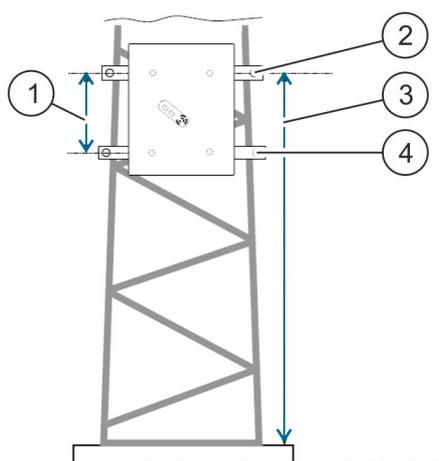

Fig. 12: Assembly on a pole
1. ➔ If it was not already installed in ↳ Chapter 6.3 'Assembly preparation' on page 40, mount the shorter retaining bracket (Fig. 12/2) with M16 fastening bolts to the top of the back of the TracFeed® SFA.
2. ➔ If it was not already installed in ↳ Chapter 6.3 'Assembly preparation' on page 40, mount the longer retaining bracket (Fig. 12/4) with M16 fastening bolts to the bottom of the back of the TracFeed® SFA.
3. ➔ Install the retaining brackets with a distance of 400 mm (Fig. 12/1) between them.
4. ➔ Fasten the TracFeed® SFA and the retaining brackets to the corner upright of the overhead contact line with the help of claws and clamps. Make sure that the upper retaining bracket is installed horizontally and at a distance of 1 200 mm (Fig. 12/3) to the top edge of the foundation.